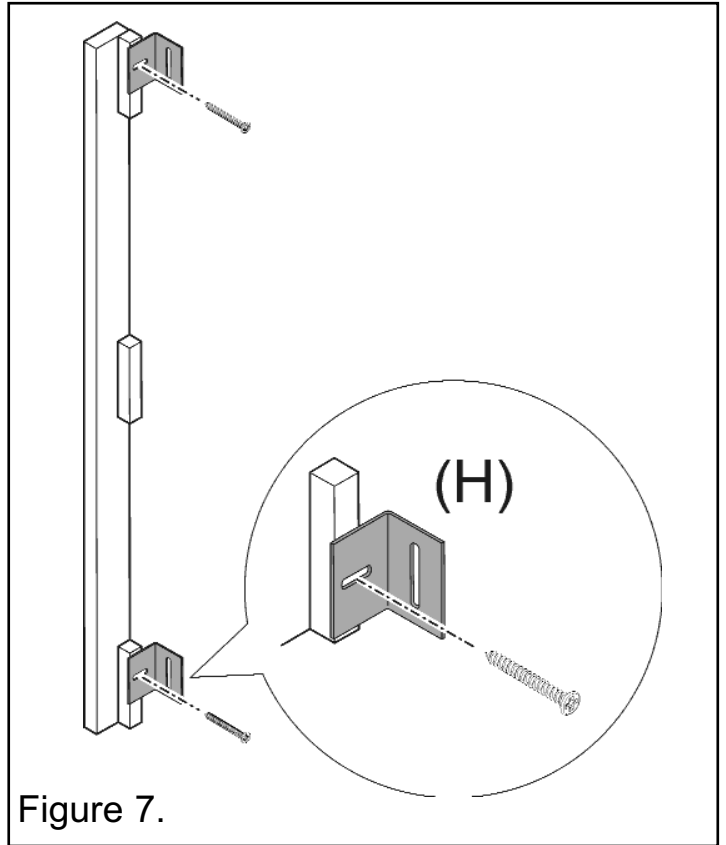

Figure 7.
- The surround is supplied with four brackets (H) that are for securing the two longer infill strips to the wall behind the back panel. This should aid with the installation of electric heaters. Secure the brackets to the strips as in figure 7 using the screws used previously to secure the strips to the surround. The slots in the brackets must be as in figure 7 to allow adjustments to be made.